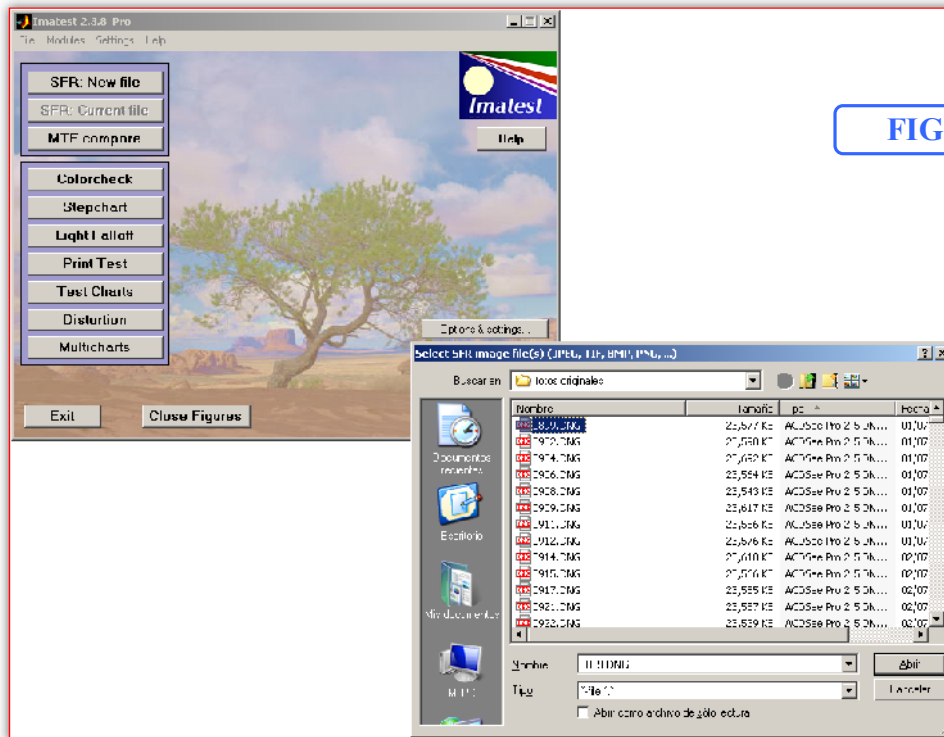

FIG. 7
- 3) Click “SFR: New File”, and another window will pop-up (Fig. 7). I have 2 pics per eyepiece (remember ideally you may have 3 pics.) You may choose whichever you want. Double-click on it for Imatest™ to load it.